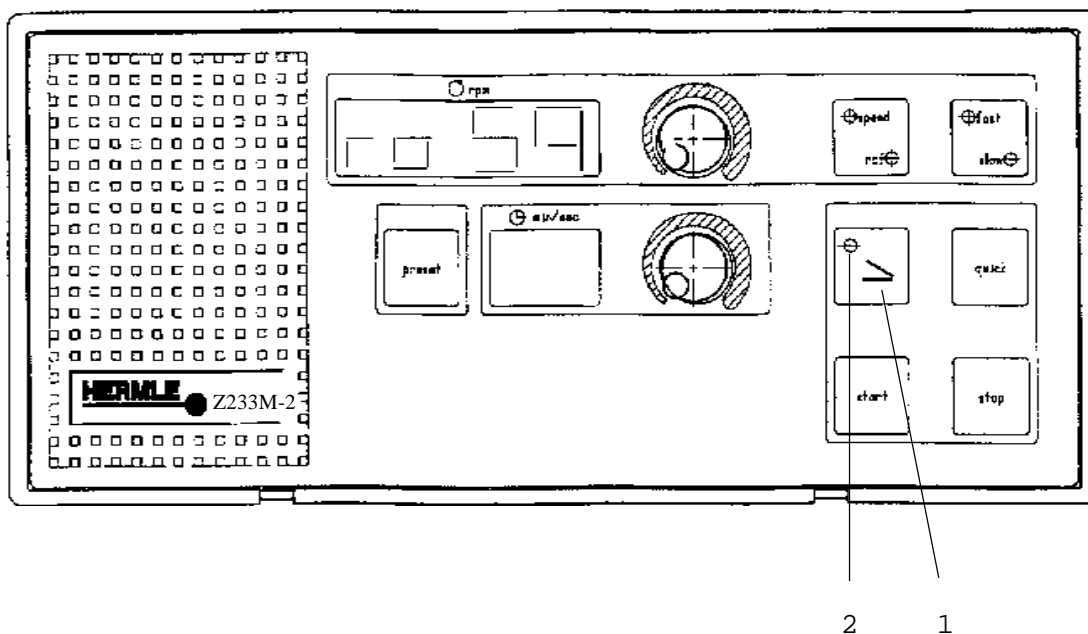

Figure 5
Press the "lid" key (1) (see figure 5) to open the lid. The green control lamp(2) will extinguish as soon as the lid is opened or the unit started.